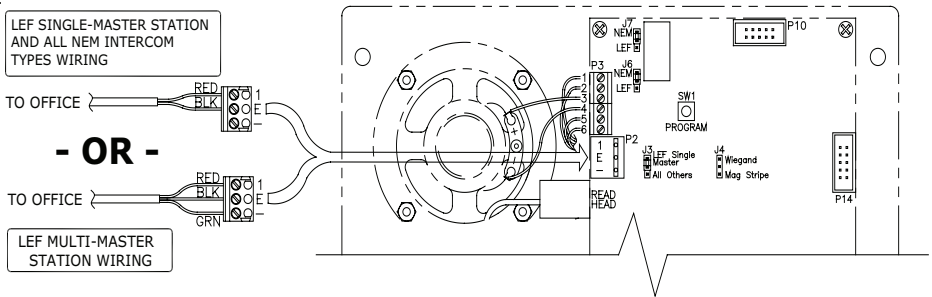

Figure 18a: Intercom
- **Intercom.** Connect the wires to terminal block P2 in the upper left corner of the board as shown in Figure 18a. The connection and jumper settings will vary depending on whether the intercom is LEF Single Master Station, LEF Multiple Master Station, or NEM type intercom. Refer to the manufacturer's instructions. It is also important to set the jumper settings as shown in Figure 18b. These will vary depending on the type of intercom setup used.